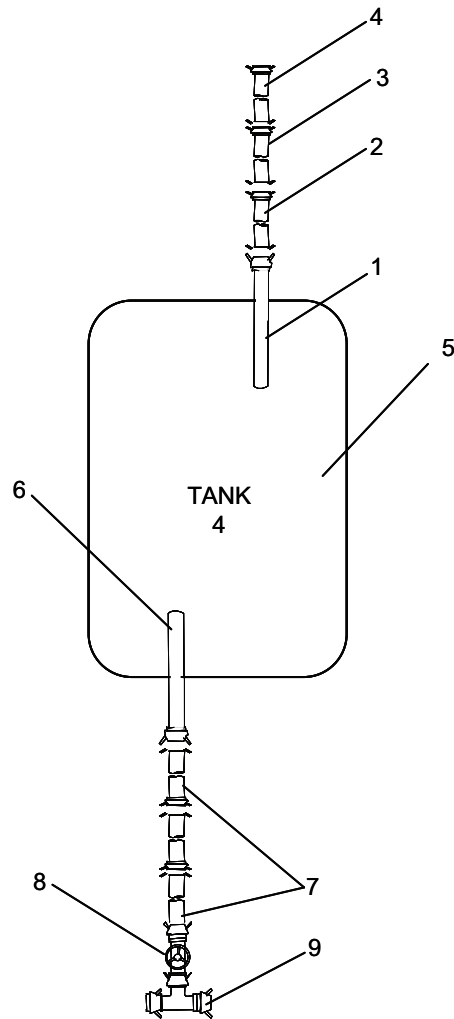

Figure 2. Fuel Tank Receipt Side Components.
11. Install the three 6 in. x 10 ft. suction hose (Figure 2, Item 2), (Figure 2, Item 3) and (Figure 2, Item 4) on the discharge side of the fuel tank suction hose (Figure 2, Item 1).
13. Connect the three sections of 6 in. x 10 ft. discharge hose (Figure 2, Item 7) to the tank hose (Figure 2, Item 6) on the receipt side of the of the fuel tank (Figure 2, Item 5).
15. Connect the 6 in. gate valve (Figure 2, Item 8) to the end of the three sections of 6 in. x 10 ft. discharge hose (Figure 2, Item 7).
17. Connect the 6 in. the gate valve (Figure 2, Item 8) to the 6 in. female x 6 in. male x 6 in. male tee assembly (Figure 2, Item 9) on the receipt side of the fuel tank (Figure 2, Item 5).